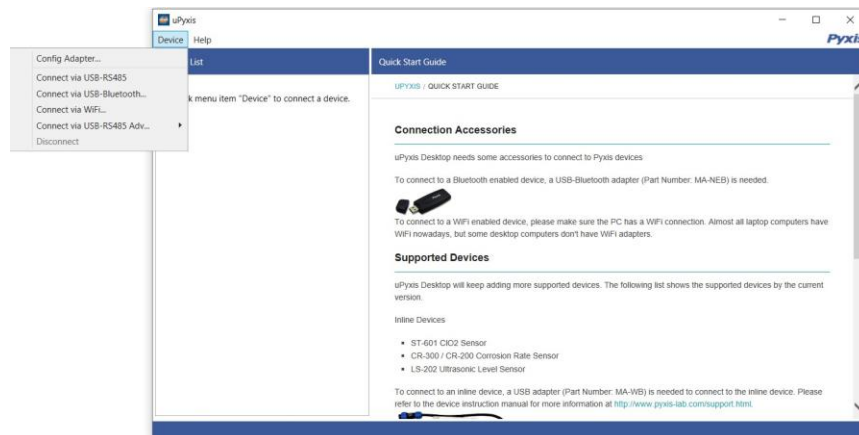

Figure 12.
3. On **uPyxis®** Desktop App, click Device → **Connect via USB-Bluetooth** or **Connect via USB-RS485** (Figure 12).
4. If the connection is successful, the EM-500 and its Serial Number (SN) will be displayed in the left pane of the **uPyxis®** window.